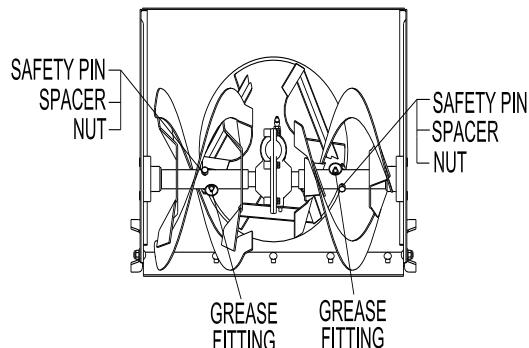

FIG 30
**6.14.1** Clean out sheared safety pin. (FIG 30)